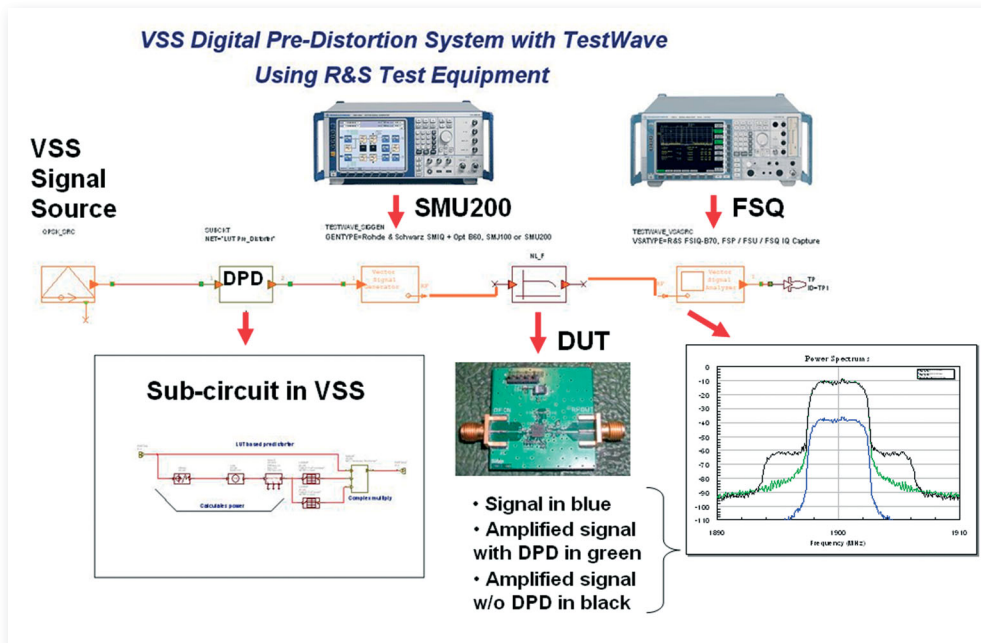

Figure 4. VSS digital pre-distortion using TestWave software and Rohde & Schwarz instruments.
- When used in conjunction with AWR's TestWave™ software, circuits, subsystems, and even complete systems can be evaluated using actual standards-based waveforms generated by signal generators, and evaluated by vector signal analyzers, spectrum analyzers, vector network analyzers, and other external instruments. Complex test routines can be created, configured, and controlled by the TestWave software and the results compared with a simulation performed in VSS (Figure 4).